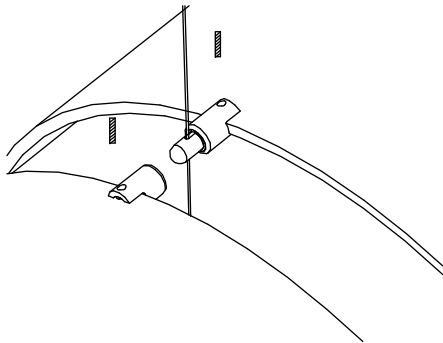

Figure 18
- C. Slide the other cable sleeve onto the other lens and tighten the set screws. (Fig. 18) Do not over tighten.